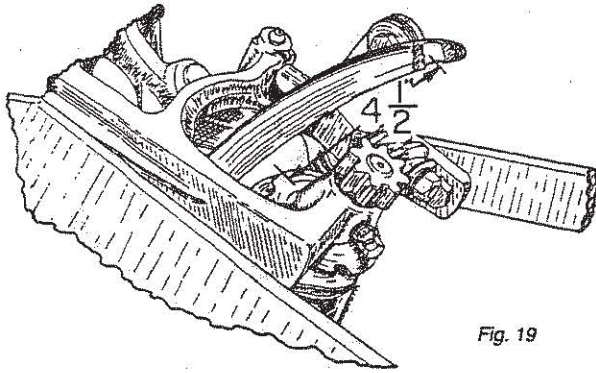

Fig. 19
c. Trip the knotter and turn the flywheel counterclockwise, by hand, until the needles are in the uppermost position. The distance from the bottom of the needle eye to the twine disc should be $4\frac{1}{2}$ ", Fig. 19.